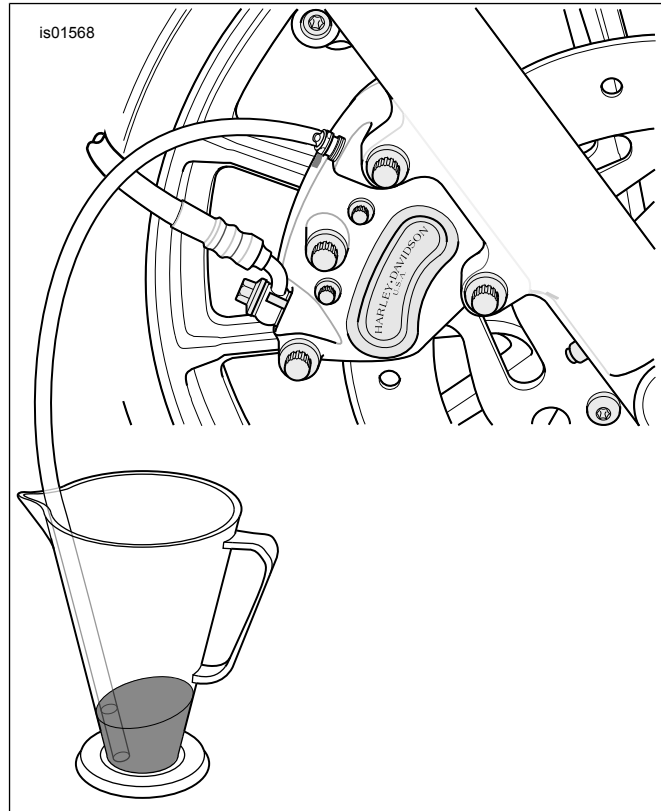

Figure 2. Bleeding Brake
- See Figure 2. Install end of a length of clear plastic tubing over caliper bleeder valve. Place the other end in a clean container.